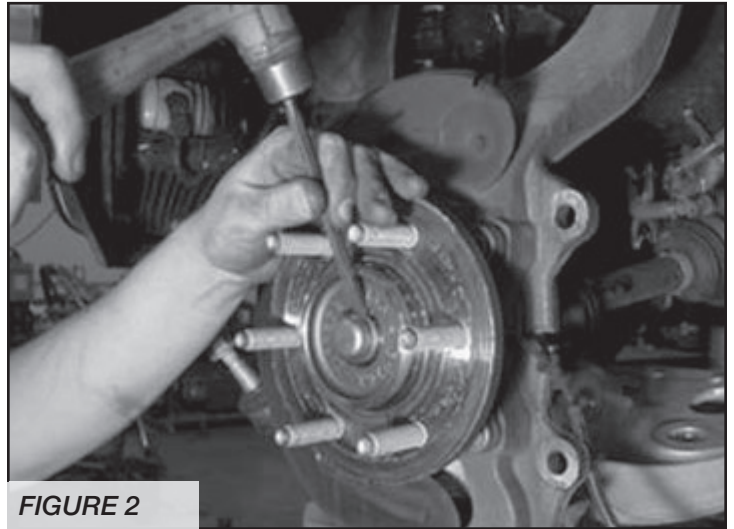

FIGURE 2
6. Carefully remove the dust cap covering the hub assembly nut. Remove the C.V. bearing nut and save the nut and dust cap. **SEE FIGURE 2**